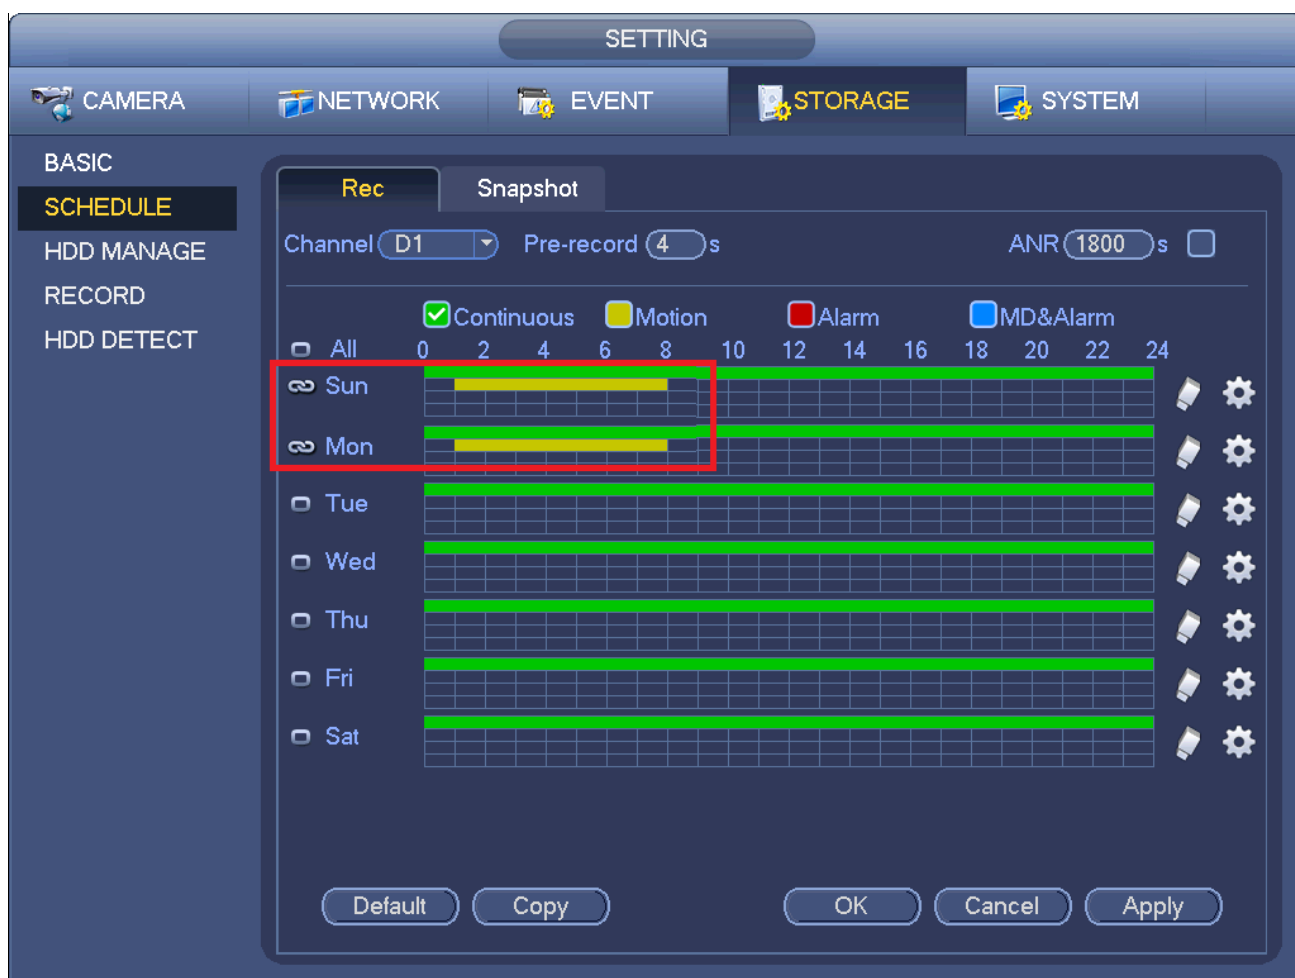

Figure 4-28
Step 3 Please draw manually to set record period. There are six periods in one day. See Figure 4-28.